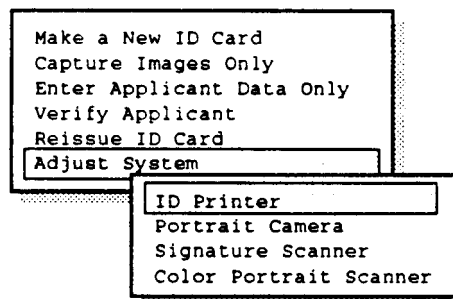

Figure 2-28 Printer/Camera Adjustment window
1. Bring up the issue and verify menu, select **Adjust System** and press <Enter> to open Color Printer/Portrait Camera window (Figure 2-28).